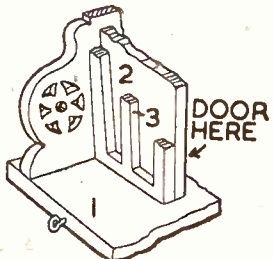
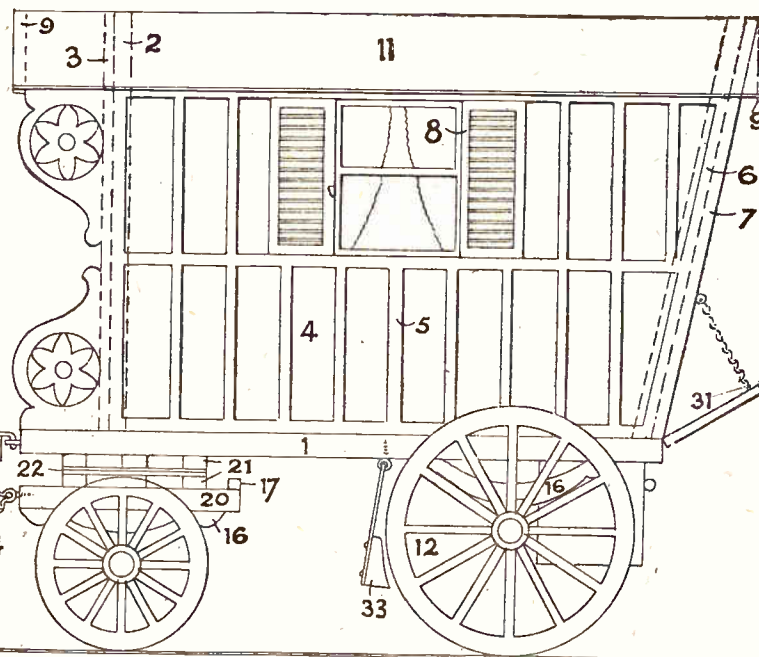

Fig. 2—Front and overlay detail
Fig. 1—Side view of the caravan
Glue the overlays to the sides and back and front, and, when these are quite dry, the main shell of the body can be assembled, being glued and pinned. Reference to Fig. 2 will show how the sides, front and bottom are butted together. Remember to slightly chamfer the bottom and top edges of the sides so that they fit correctly.
to make the harness guides shown on the sides of shafts in Fig. 1. These having been fixed, you can make the hinges (34) shown 'in the flat'
The complete steps are easily assembled, glue being sufficient to hold them securely. Two screw eyes are placed at the front of the floor of the caravan (one is shown in Fig. 2), to hold the steps in the position shown in Fig. 1.
**T**HIS is an easily constructed high chair, which will please any little girl; a chair into which she can safely put her doll for 'feeding'. It stands 12ins. high, and a glance at Figs. 1 and 2 will show that its making is not at all difficult.